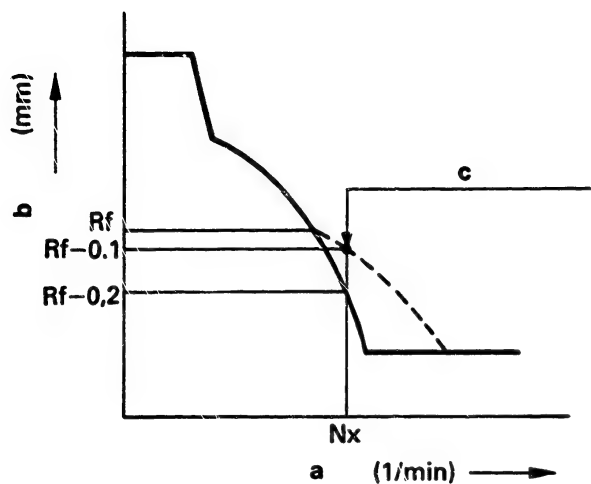

Fig. 85 Set position of damper spring
3. Screw in damper spring until control rack position corresponds with R_f minus 0.1 mm, and lock the spring at this point. (Figs. 85 and 86)